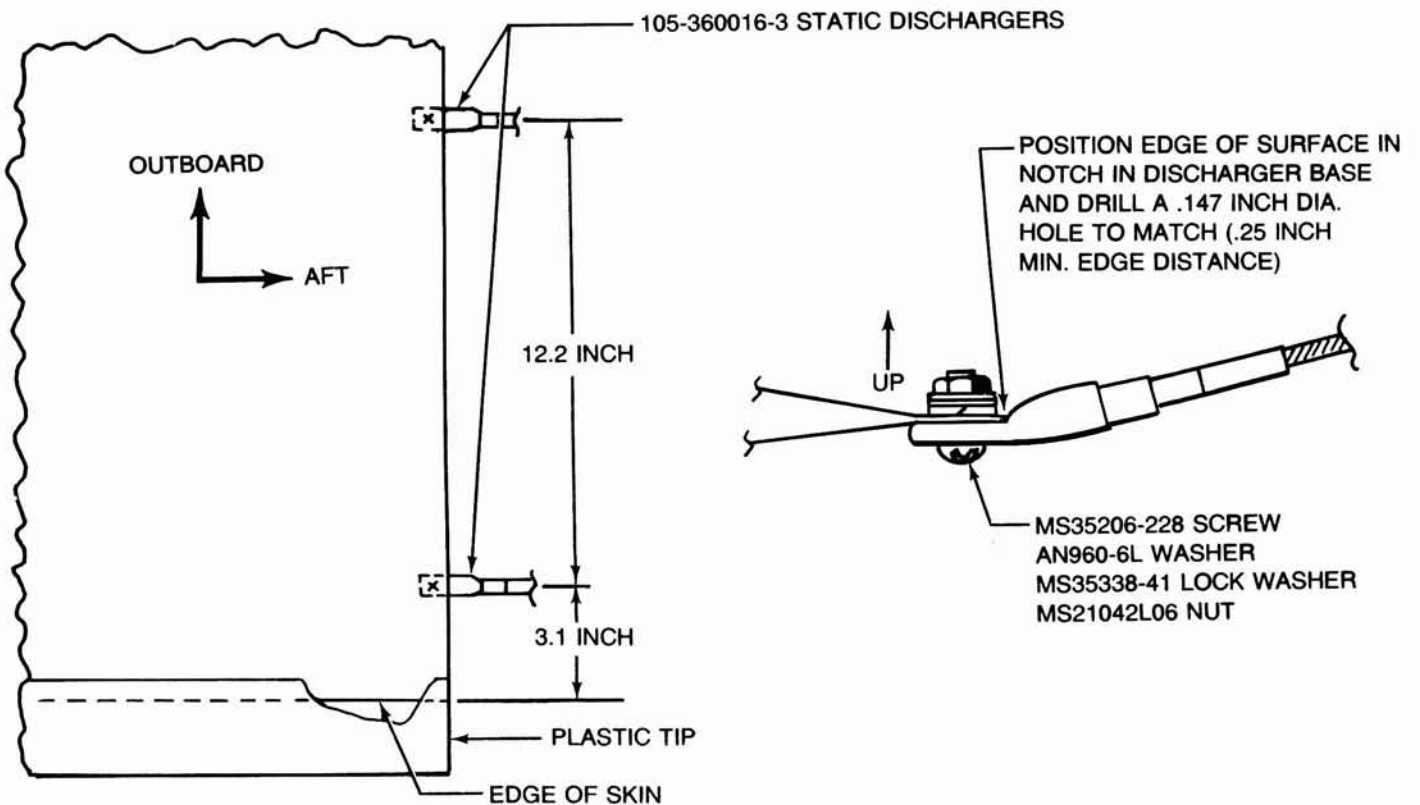

Figure 4.
19. Drill a .147 inch diameter hole at each location shown in Figure 4.
22. Install one P/N 105-360016-3 static discharger at each location as shown in Figure 4. Touch up paint as required around the static dischargers. The metal base and the mounting bolt may be painted but do not paint the static discharger wicks.